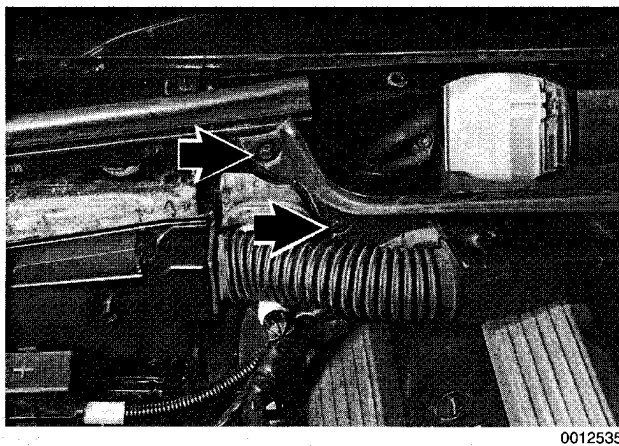

Fig. 3. Right side plenum retaining screws (arrows).
4. On passenger side, push aside wiring harness and remove two screws retaining plenum housing. See Fig. 3.